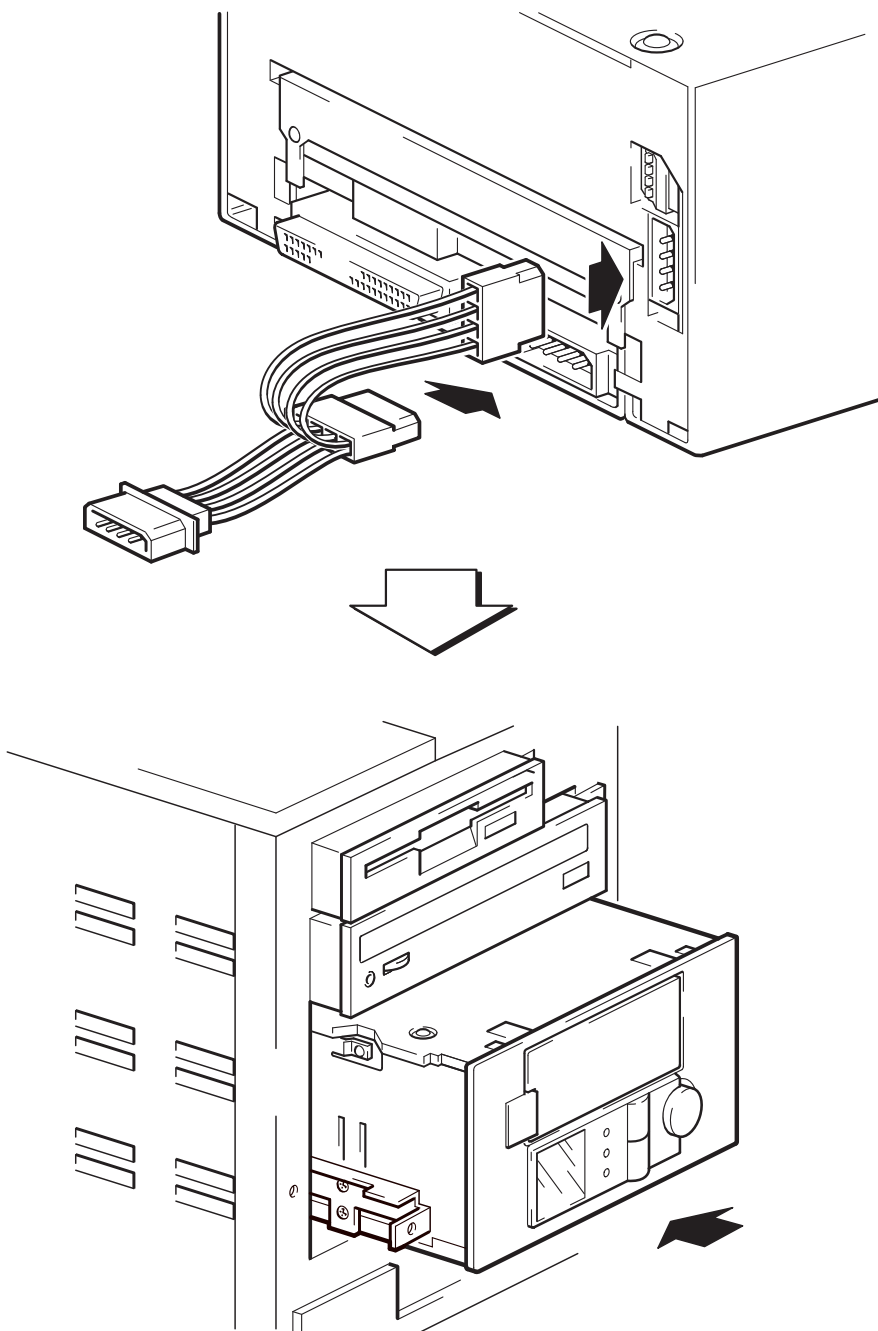

Figure 8: attaching Y-cable and installing device
- 1 Attach the Y-cable's female power connectors to the autoloader's two power sockets, as shown in figure 8.
- 2 Slide the autoloader into the open bay, aligning the tray or rails with the slots in the bay, as shown in figure 8.